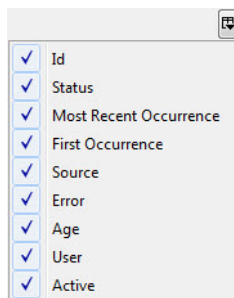

Fig. 60 Menu for configuring columns of the *Raised Alarms* and *Dismissed Alarms* tables
- Click the *Configure Columns* button on the right of the table header. A menu will open (see Fig. 60 on p. 90).